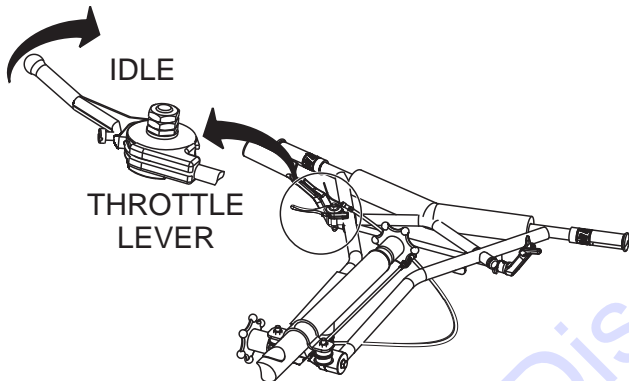

Figure 33. Throttle Lever (Idle)
- Place the throttle lever in the **IDLE** position (Figure 33).